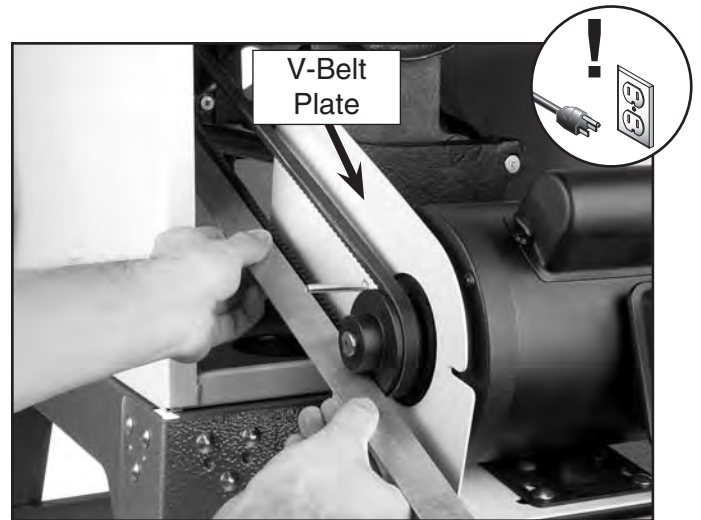

Figure 22. V-belt alignment.
- Place a straightedge across the arbor pulley and the motor pulley. The straightedge should align across the face of both pulleys (**Figure 22**).